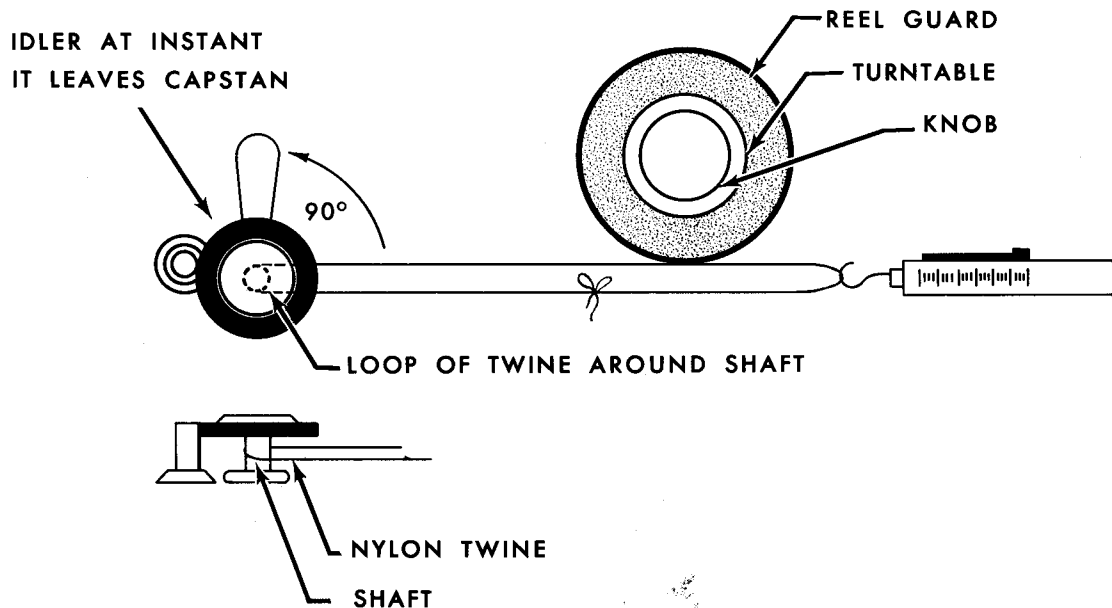

Fig. 5-8 CAPSTAN IDLER PRESSURE MEASUREMENT
The capstan idler is forced against the capstan by the action of the capstan solenoid spade bolt. See figure 5-8. Tightening the lock nut increases idler pressure until a point is reached where the solenoid will not bottom. At this point, idler pressure drops to a value which is inadequate to permit the capstan to drive the tape, and slippage will occur unless the nut is backed off. Excessive pressure also throws an unnecessary load on the upper sleeve bearing of the drive motor and causes a considerable lax in that speed being operated. The recommended procedure for adjusting idler pressure is as follows:
Step 8: Now, slowly pull the scale away with sufficient power to cause the capstan idler to leave the capstan, reading the scale at the instant the capstan idler leaves the capstan. The scale reading should be 5 lbs. $\pm 1/2$ lb. If necessary, adjust the capstan dig at the point shown in figure 5-8.